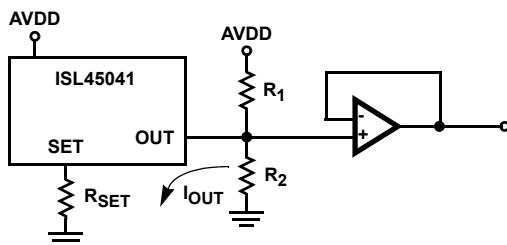
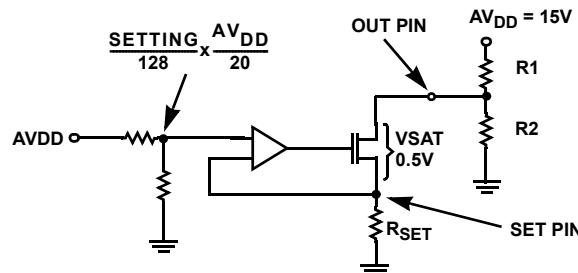

FIGURE 1. OUTPUT CONNECTION CIRCUIT EXAMPLE
FIGURE 2. OUTPUT CONNECTION CIRCUIT EXAMPLE
**Electrical Specifications** Test Conditions: VDD = 3.3V, AVDD = 18V, RSET = 5kΩ, R1 = 10kΩ, R2 = 10kΩ; (See Figure 1) Unless Otherwise Specified. Typicals are at TA = +25°C. **Boldface limits apply over the operating temperature range, 0°C to +85°C.**
**Electrical Specifications** Test Conditions:  $V_{DD} = 3.3V$ ,  $AV_{DD} = 18V$ ,  $R_{SET} = 5k\Omega$ ,  $R1 = 10k\Omega$ ,  $R2 = 10k\Omega$ ; (See Figure 1) Unless Otherwise Specified. Typicals are at  $T_A = +25^\circ C$ . **Boldface limits apply over the operating temperature range, 0°C to +85°C. (Continued)**
- A typical Current of 20µA is Calculated using  $AV_{DD} = 10V$  and  $R_{SET} = 24.9k\Omega$ . Reference “ $R_{SET}$  Resistor” in Figure 2.
The external  $R_{SET}$  resistor sets the full-scale sink current,  $I_{SET}$  maximum, that determines the lowest voltage of the external voltage divider  $R_1$  and  $R_2$  (Figure 1). The voltage difference between the OUT pin and SET pin (Figure 2), which are also the drain and source of the output transistor, must be greater than 1.75V. This will keep the output transistor in its saturation region to maintain linear operation over the full range of register values. Expected current settings and 7-bit accuracy occurs when the output MOS transistor is operating in the saturation region. Figure 2 shows the internal connection for the output MOS transistor. The value of the  $AV_{DD}$  supply sets the voltage at the source of the output transistor. This voltage is equal to  $(\text{Setting}/128) \times (AV_{DD}/20)$ . The  $I_{SET}$  current is therefore equal to  $(\text{Setting}/128) \times (AV_{DD}/20 \times R_{SET})$ . The drain voltage is calculated using Equation 2. The values of  $R_1$  and  $R_2$  (Equation 2) should be determined using  $I_{OUT}$  maximum (setting equal to 128) so the minimum value of  $V_{OUT}$  is greater than  $1.75V + AV_{DD}/20$ .